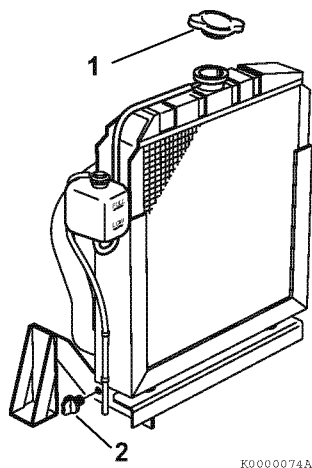

Figure 23
2. Remove the radiator cap (1, **Figure 23**).
3. Remove the drain plug or open the drain cock (2, **Figure 23**) at the bottom of the radiator and drain the engine coolant.